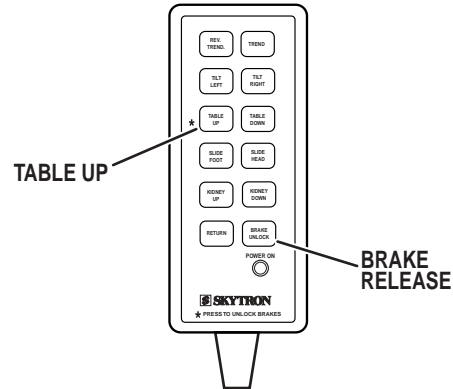

Figure 2-3. Brake System Activation
a. **Floor Lock/Brake System.** To activate the brakes without affecting table positioning, press the TABLE UP button. See figure 2-3. The elevation cylinder will not function until the brakes are completely extended. An electronic timer in the brake circuit will activate the brake system until the brakes are completely set, approximately 8-10 seconds.
Press the BRAKE UNLOCK button on the pendant control to release the four self-leveling brake feet in order to move the table. See figure 2-3. The brake delay circuit automatically retracts the brake system with just one press of the BRAKE UNLOCK button. It takes approximately 7-8 seconds to totally release the system.